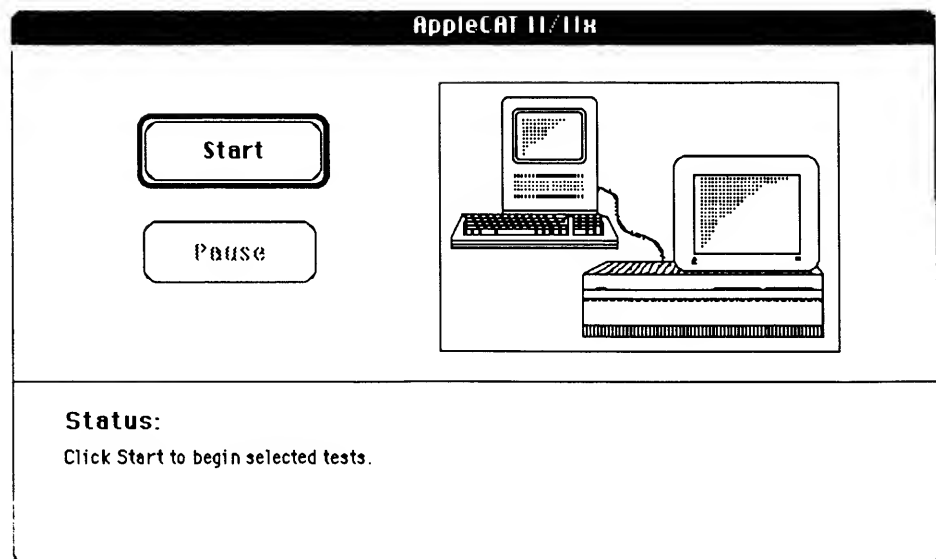

Figure 3-8
2. Open the disk icon and then the *AppleCAT II/IIfx* icon. The *AppleCAT II/IIfx Start* window (Figure 3-8) will appear on the test station screen.